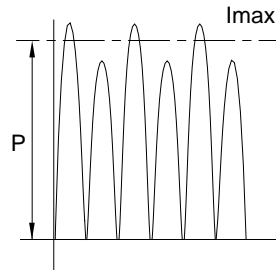

Fig. 2
- Setting not permissible fig. 2